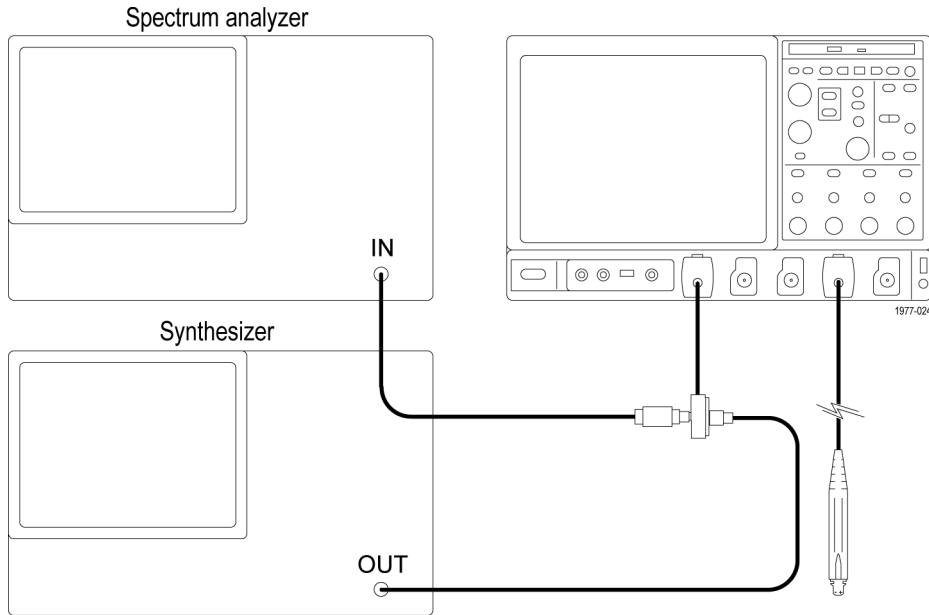

Figure 15: Alternate Bandwidth and CMRR test setup
1. Connect the equipment as shown. (See Figure 15 on page 29.) This setup is identical to the network analyzer setup in the main procedure, except that the synthesizer and spectrum analyzer replace the network analyzer. (See Figure 10 on page 18.)